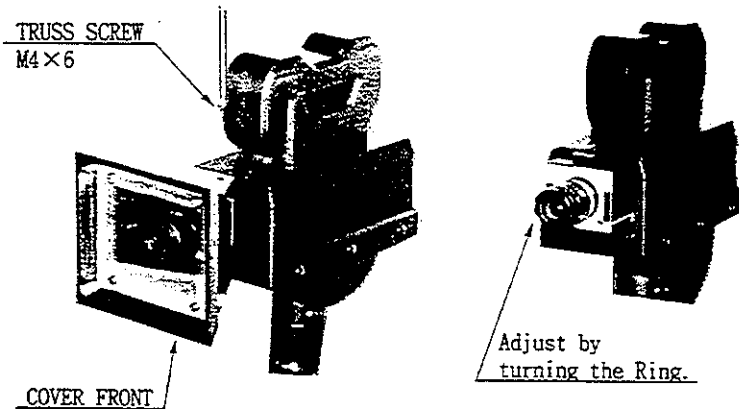

Fig. 16.1
② Take off the screw to remove Cover Front.
③ Turn the CCD Camera's Lens Ring to allow aperture and focus to be adjusted (Fig. 16.1)